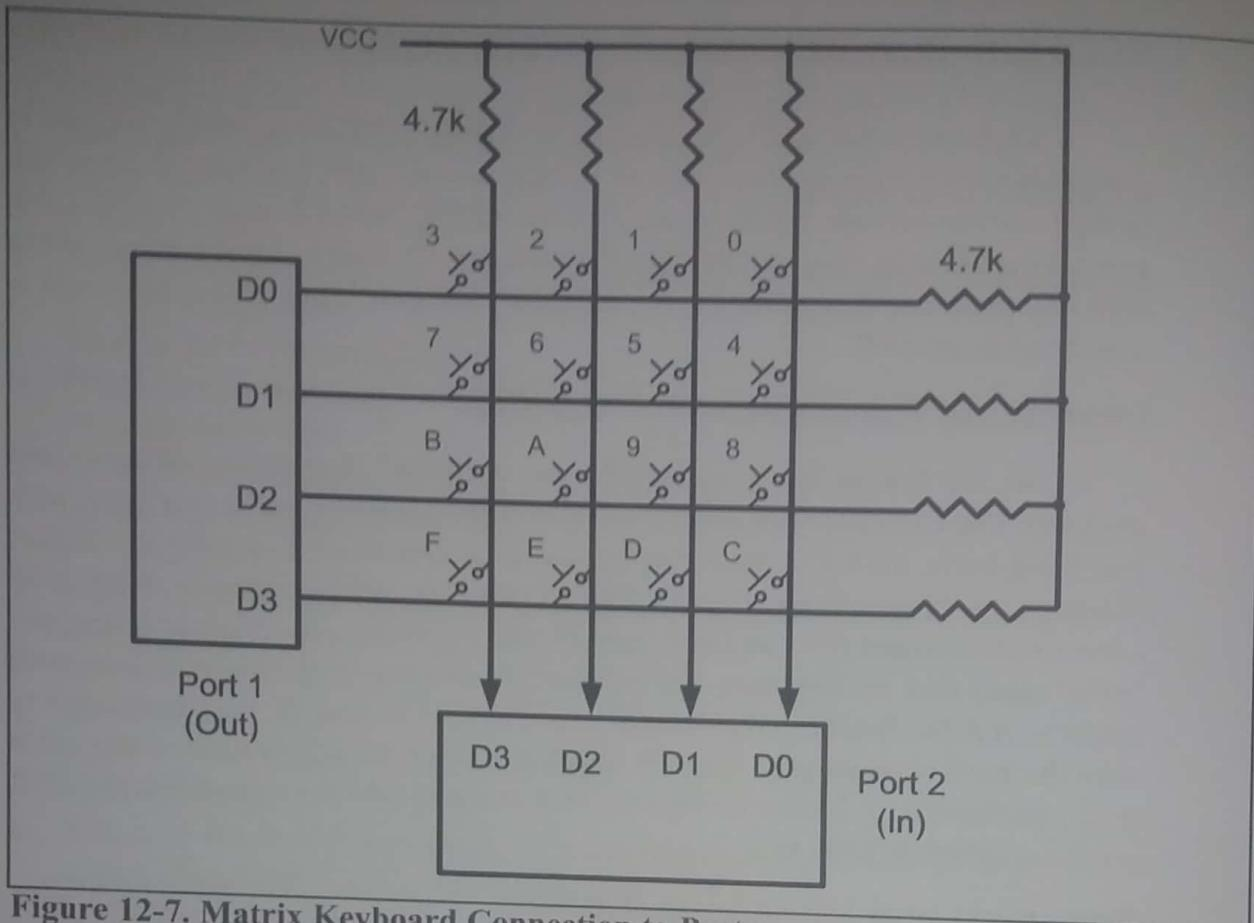

Figure 12-7. Matrix Keyboard Connection to Ports
Figure 12-7 shows a 4×4 matrix connected to two ports. The rows are connected to an output port and the columns are connected to an input port. If no key has been pressed, reading the input port will yield 1s for all columns since they are all connected to high (VCC). If all the rows are grounded and a key is pressed, one of the columns will have 0 since the key pressed provides the path to ground. It is the function of the microcontroller to scan the keyboard continuously to detect and identify the key pressed. How this is done is explained next.
From Figure 12-7 identify the row and column of the pressed key for each of the following.
From Figure 12-7 the row and column can be used to identify the key.
4. In Figure 12-7, if the rows are $D3-D0 = 1110$ and the columns are $D3-D0 = 1110$, which key is pressed?